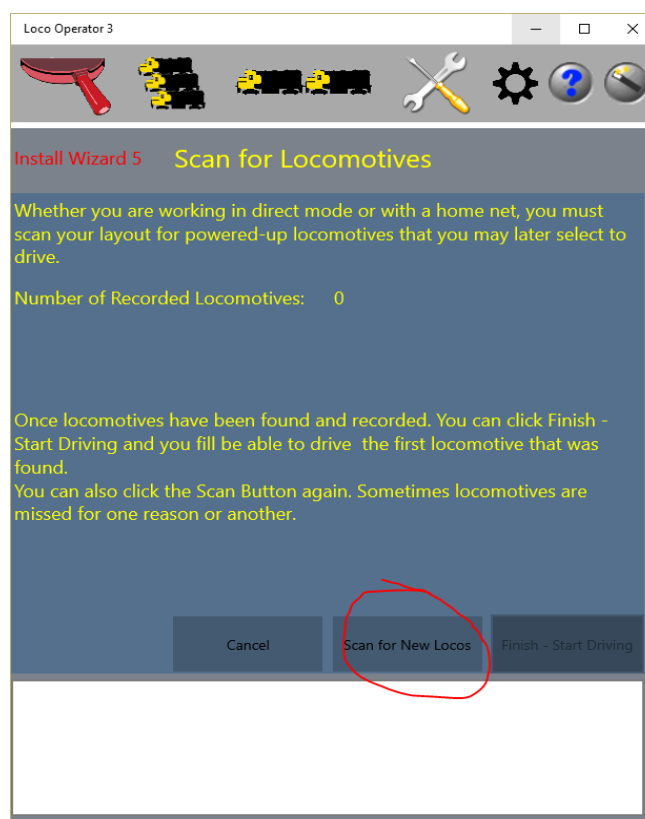

Figure 45 Install Wizard Page 5, Scan for Locomotives
- (6) Now you see Install Wizard 5 as Figure 45. By this time, your Wi-Fi Router should have allocated IP addresses to your locomotives. Click the Scan for New Locos button. And Continue on the pop-up. Your computer will connect to your Home Net and test each IP Address in your specified range to find modules.
- (7) Once one or more module has been found, set the decoder models again, click Done and click the Finish-Start Driving button and you can perform the same tests as you did in Direct Mode. The roster is already stored in your WFD-31 and does not need to be re-entered.